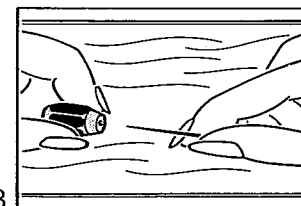
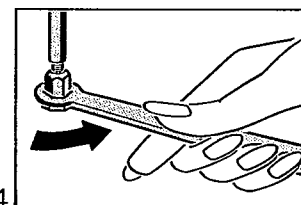

Fig. 3
Fig. 4
4. Close the boiler cap securely by screwing it clockwise (↻) (Fig. 3).
5. Place the filter (F) into the filter holder (G) and fill to the desired level with Espresso coffee. The filter is marked on the side for 2 or 4 cups. Tap lightly on the counter or table to settle and pack the coffee. Wipe the rim of the filter and filter holder to brush away any coffee grounds. This will assure a proper seating when it is put into the machine.
6. To place the filter and filter holder into the machine, grasp the handle of the filter holder and with the handle under the left front corner (See Fig. 4) raise the filter holder assembly upward into the filter holder ring, and turn the handle to the right locking the filter holder into the machine (See Fig. 5).
4. Clear any obstruction in the nozzle by carefully using a fine needle (Fig. 3).
6. Fasten the nozzle carefully until it is tight (Fig. 4).